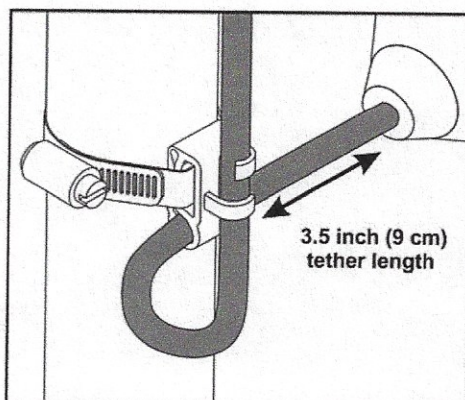

FIGURE 2 - Mounting clamp detail
4. Place the cord into the clamp as shown in **Figure 2**.
5. Locate the clamp at the desired activation level and secure the clamp to the discharge pipe as shown in **Figure 2**.